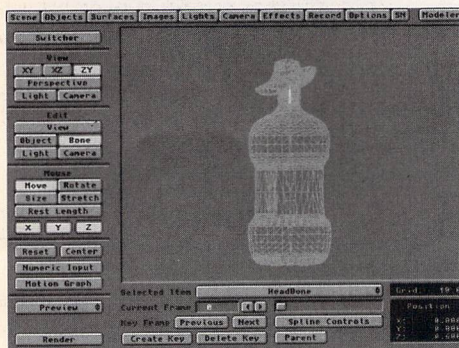

Figure 2: The neck Bone in place.
- Add another Bone and rename it "chestbone." Place this one in the top middle portion of the bottle. Finally, add only one more Bone, renaming it "neckbone," and change the rest length, then rotate it to fit it in the neck area (Figure 2). Once your Bones are in place, type (r) on the keyboard and create a keyframe for each bone.